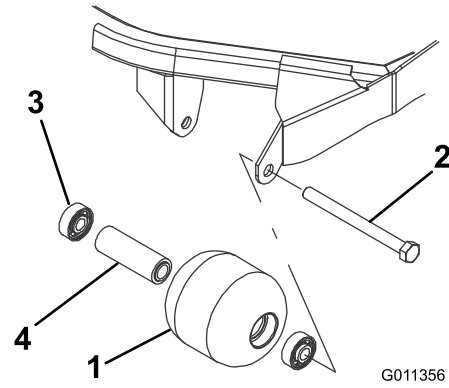

Figure 74
4. Inspect the roller housing, bearings, and bearing spacer for damage (Figure 74). Replace damaged components and assemble.
1. Remove the roller mounting bolt (Figure 74).
1. Press the first bearing into the roller housing (Figure 74). Press on the outer race only or equally on the inner and outer race.
2. Insert the spacer (Figure 74).
3. Press the second bearing into the roller housing (Figure 74) pressing equally on the inner and outer race until the inner race comes in contact with the spacer.